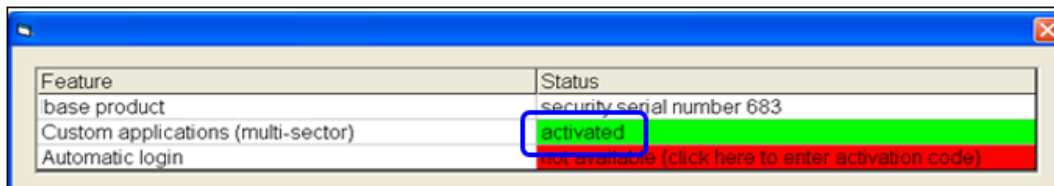

Figure 5: The “activated” status indicates that Multi-Barcode Verification is active
4. The Multi-Barcode Verification feature is now active (Figure 5).